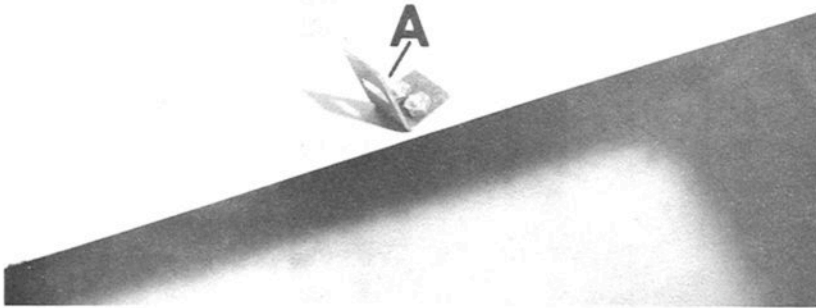

FIGURE 1
1. Bolt Hood Catch (A in Figure 1) to left side of Hood, using holes in Hood as guide. Be sure slotted portion of Catch faces rear of Hood.